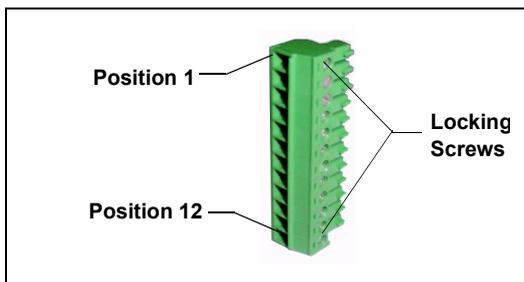

Figure D-2. 12-Position Connector Plug
1. Locate the twisted pair of wires (P/N 043598) and the 12-position connector plug (P/N 923687) (see Figure D-2) in the ICS-2000 Ship Kit (P/N 057905).